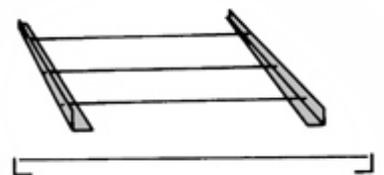

FIG. 9 - Stretch a tight line from the top edge of the wall angle on all sides of the room at each position where
- d) Locate the position of each main tee by stretching a tight line from the top edge of the wall angle on all sides of the room at each position where the main tees are to be placed (Fig. 9).